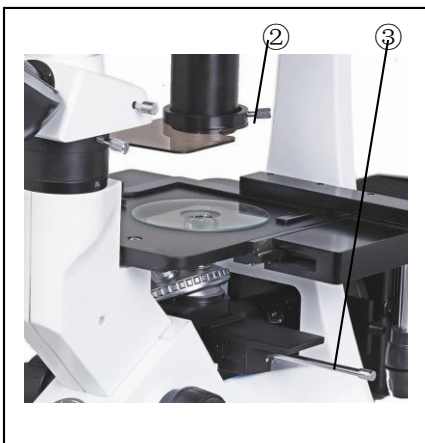

Fig 16
2.2.11 Installing protection barrier, glass plate, lever (fig 16)